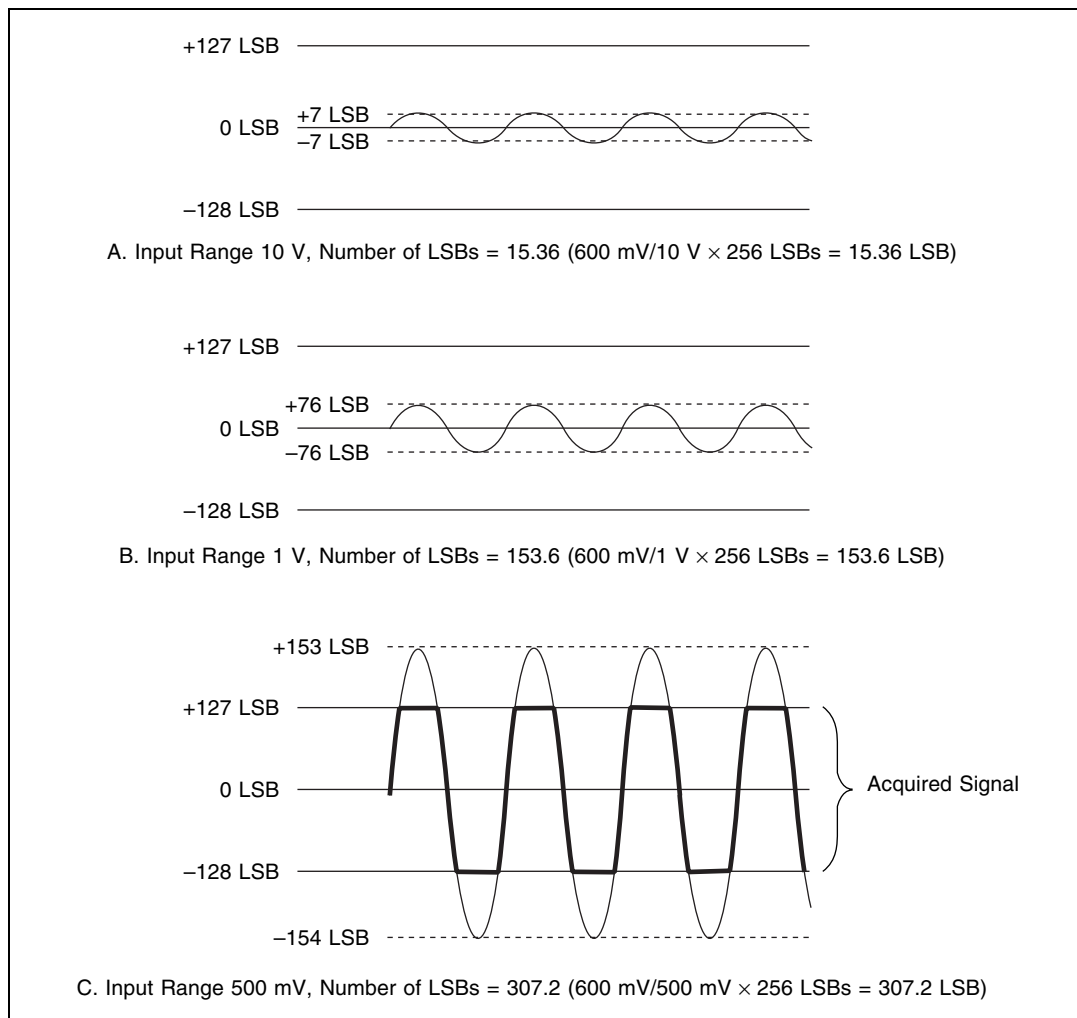

Figure A-5. Dynamic Range of an 8-Bit ADC with Three Different Gain Settings and a 600 mV Peak-to-Peak Input Signal
- **Peak-to-peak value**—This parameter, in units of volts, reflects the maximum change in signal voltage. If V is the signal voltage at any given time, then $V_{\text{pk-to-pk}} = V_{\text{max}} - V_{\text{min}}$. The peak-to-peak value affects the vertical sensitivity or gain of the input amplifier. If you do not know the peak-to-peak value, start with the largest input range, and decrease it until the waveform is digitized using the maximum dynamic range without clipping the signal. Refer to the specifications for your digitizer for the maximum input range. Figure A-5 shows how different ranges affect the resolution of the signal you acquire.